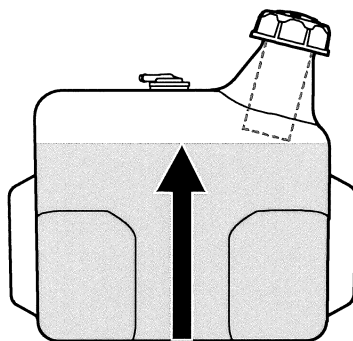

Figure 2-10
2. Fill the fuel tank with gasoline. Use only clean, fresh (no more than 30 days old), unleaded gasoline. Fill tank to no more than 1/2" below bottom of filler neck to allow space for fuel expansion. See Figure 2-10.
Important: Do not overfill the tank. Fill tank to no more than 1/2" below bottom of filler neck to allow space for fuel expansion. See Figure 2-10.